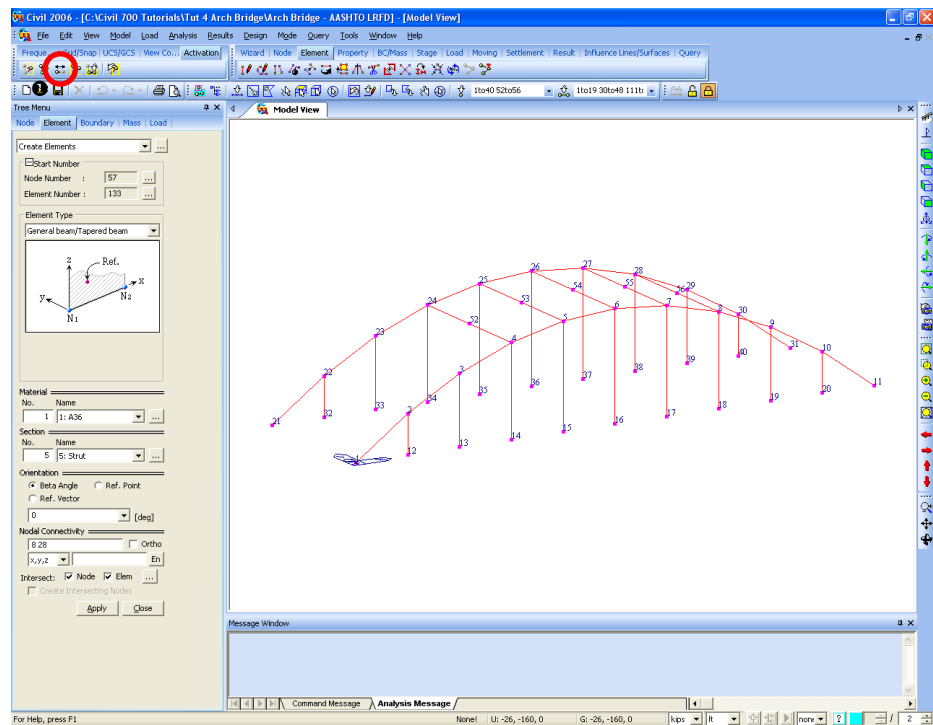

Figure 4.15 Completed Struts
1. Click  **Inverse Active** (Figure 4.15 .
6. Click the **Nodal Connectivity** field. Once the background color turns to pale green, connect separately nodes **4** and **24**, **5** and **25**, **6** and **26**, **7** and **27**, and **8** and **28** (Figure 4.15).